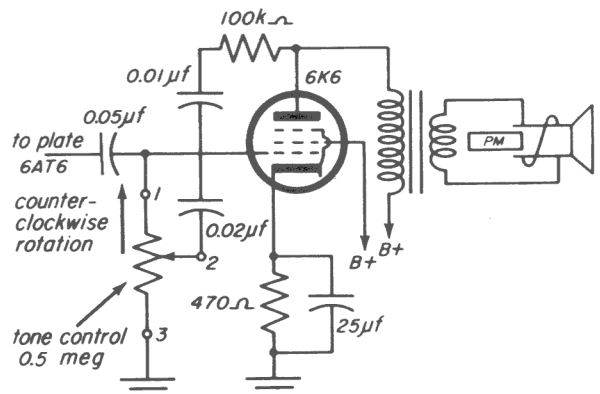

Fig. 35-8
Information. A schematic of the circuit you will now build is shown in Fig. 35-8. The effect upon tone of the control in this circuit should be similar to that in the circuit you built in Experiment 35-1. However, this circuit works differently. In this circuit the filter is made up of the 100 k-ohm resistor, the two capacitors (0.01 and 0.02- μ f) in series combination, and the 0.5-megohm control at the grid of the 6K6. The two capacitors are combined in series to yield the needed value of capacitance—0.007- μ f. A portion of the signal at the plate of the 6K6 is fed back to the grid where it is in a phase opposing the forward-going grid signal. Because of the 0.007- μ f capacitance, more signal voltage is fed back at treble frequencies than at bass frequencies. As a result, the treble portion of the forward-going signal is cancelled more than the bass. The treble is most effectively opposed when the moving arm is positioned counterclockwise (c.c.) at the grid end of the 0.5-megohm control resistor. With the arm at the grid, the most treble signal voltage is fed back.
Step 4. Solder the other lead of the resistor to the plate, pin 3, of the 6K6. The circuit is now wired as shown schematically in Fig. 35-8.